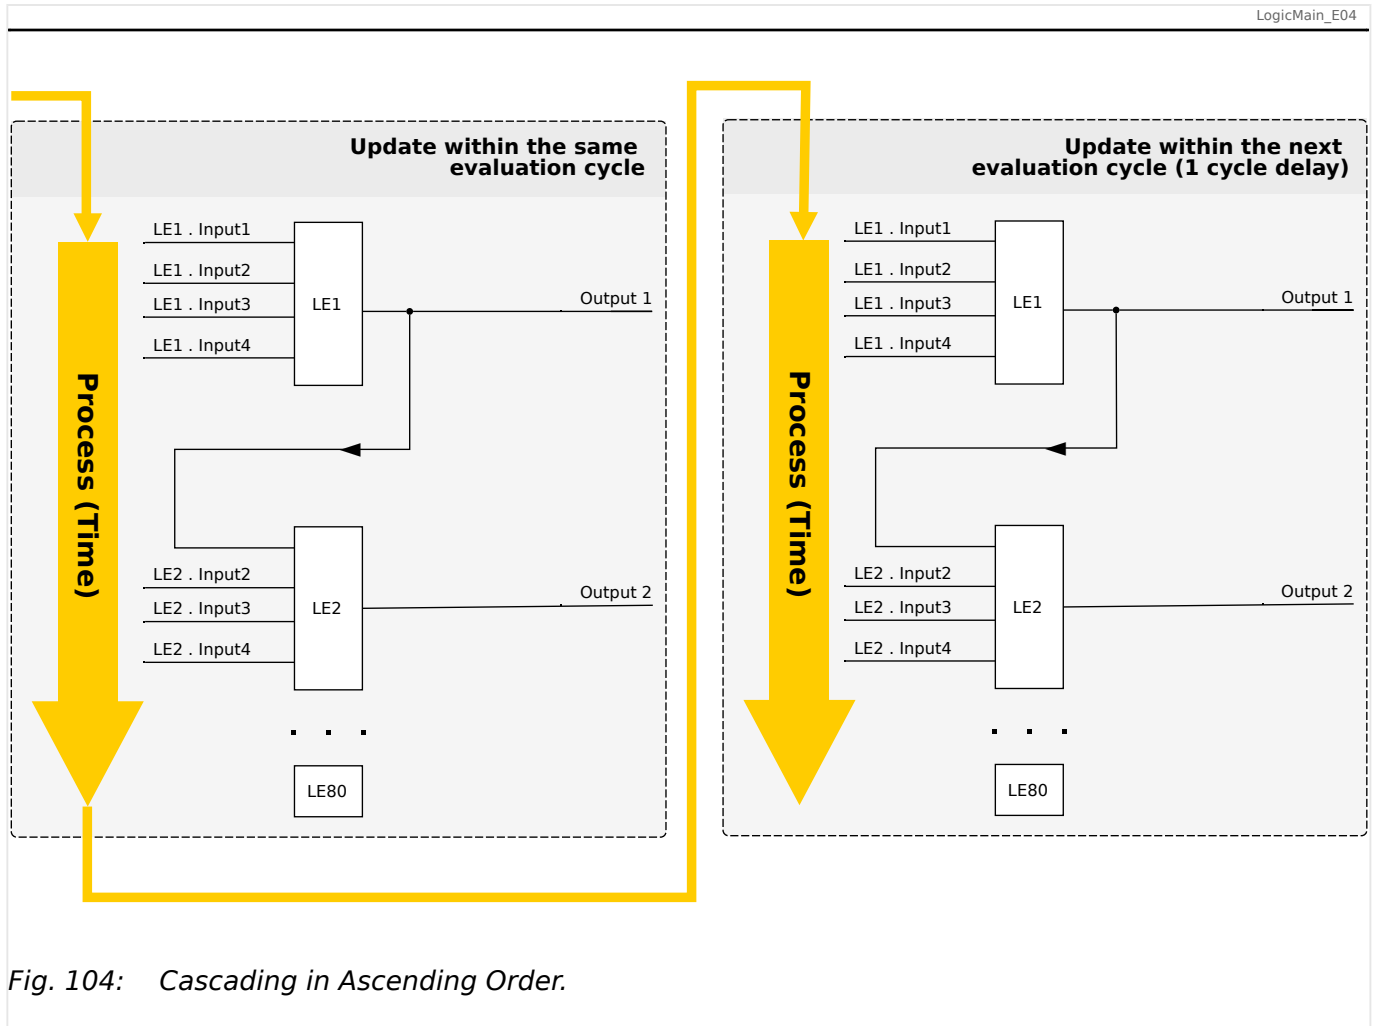
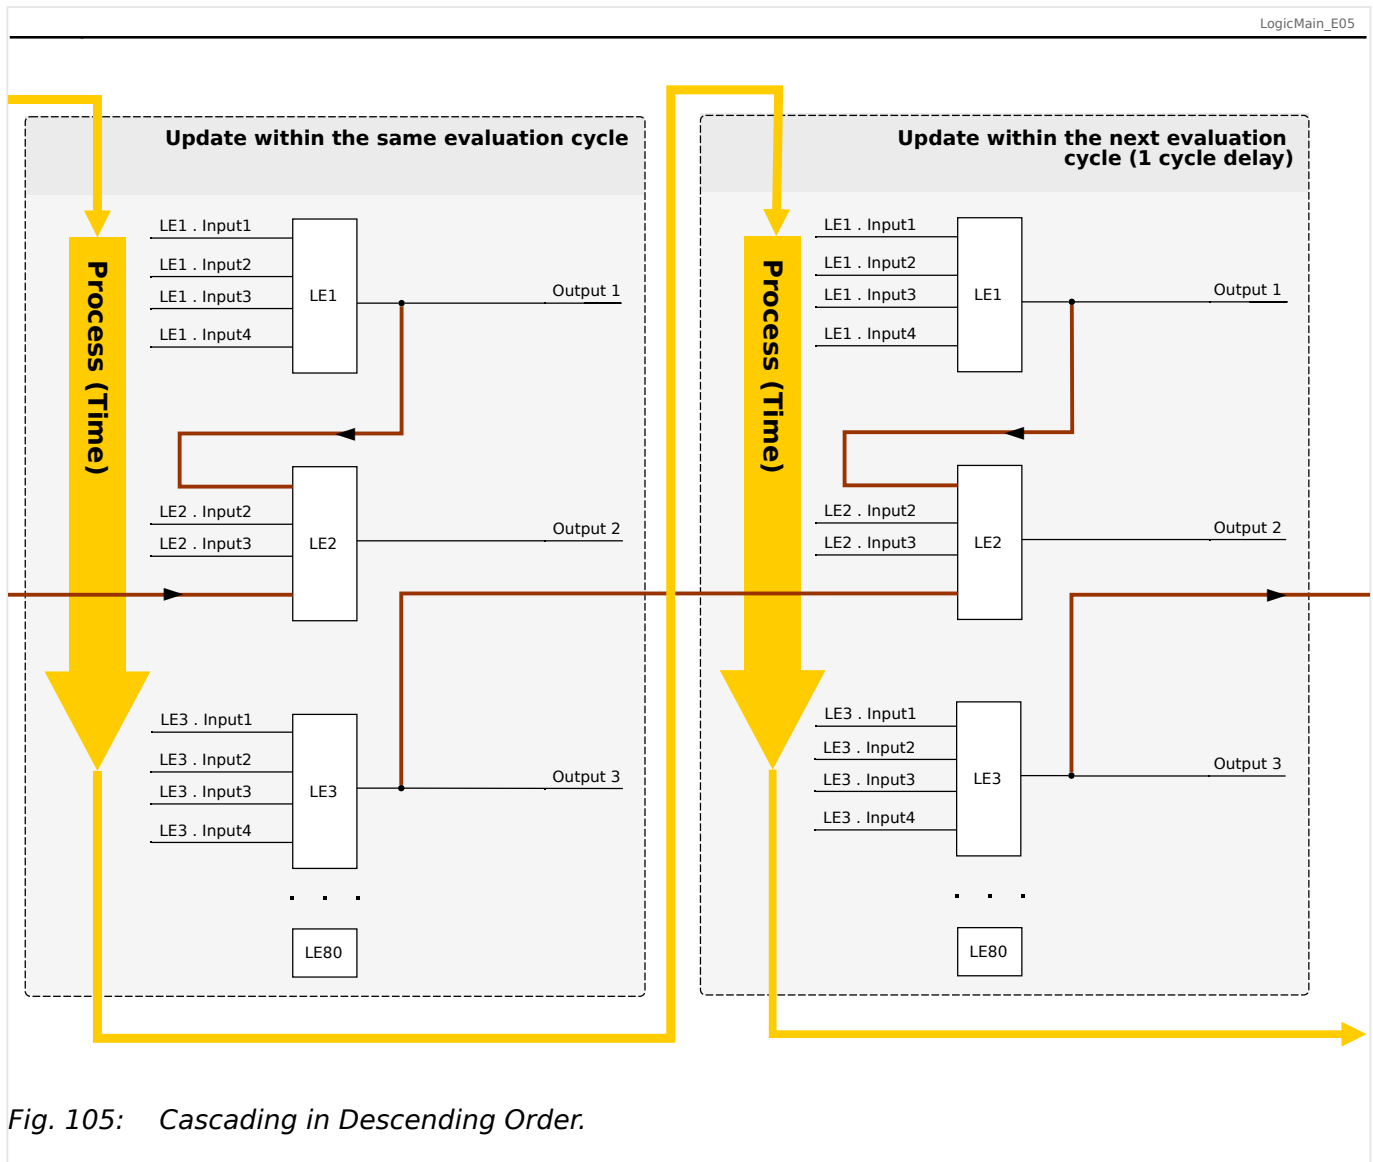

Fig. 104: Cascading in Ascending Order.
Fig. 105: Cascading in Descending Order.
- **Ascending** sequence means that some output is fed into the input of a logic equation with **higher** number. For instance, diagram  Fig. 104 below shows an example where the result of Logic Equation LE1 is used as an input of Logic Equation LE2.
- **Descending** sequence means that some output is fed into the input of a logic equation with **lower** number. For instance, diagram  Fig. 105 shows an example where the result of Logic Equation LE3 is used as an input of Logic Equation LE2.
Both ascending and descending sequences may be used and combined one with the other, with no immediate difference. However, due to the evaluation of all equations in ascending order the actual run-time values that are fed in at the input of an equation will have a different “age”, as is shown in  Fig. 104 and  Fig. 105 below.
In the example shown in Fig. 105 above, “Logic Equation 2” uses the output states of two other equations, “Logic Equation 1” and “Logic Equation 3”. The result of “Logic Equation 1” is used in ascending order and has therefore been evaluated within the same process cycle. The result of “Logic Equation 3” is used in descending order and has therefore been evaluated in the previous process cycle.